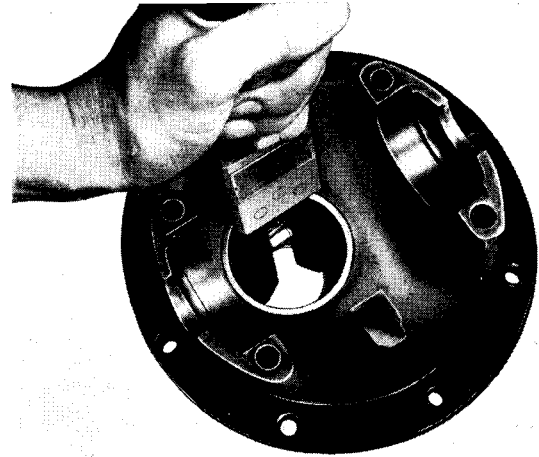

Fig. 37. Driving out pinion bearing outer races
Drive out the pinion tail bearing outer race, the oil seal (58) and the head bearing outer race. See Fig. 37.